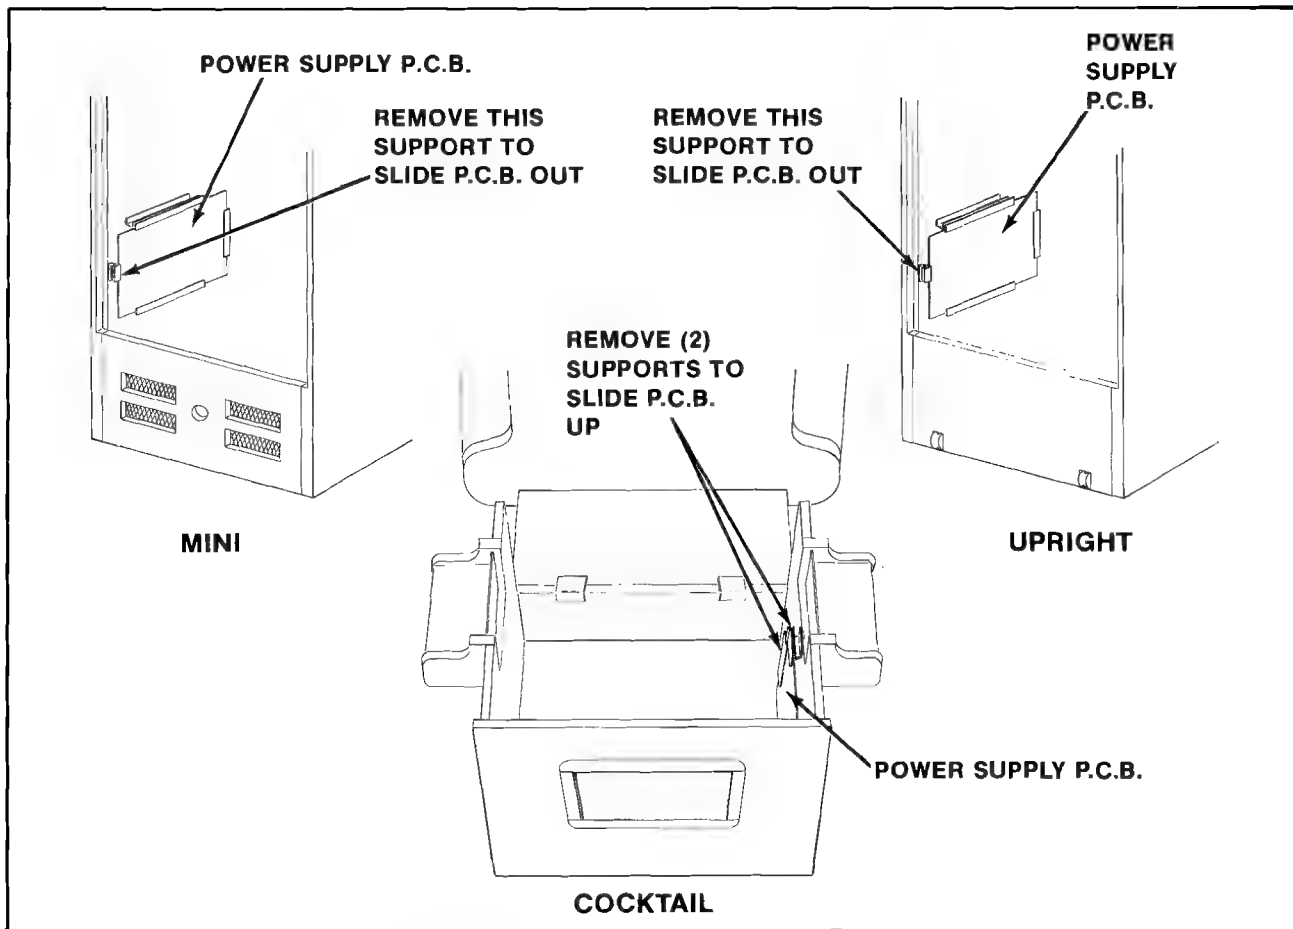

Figure 19 Power supply replacement
1. UPRIGHT MODEL: See Figure 19.
- Disconnect the power supply board from all its cabling, remove the P.C.B. supports indicated in Figure 19, and slide it out the back of the cabinet.
2. MINI MODEL: See Figure 19.
3. COCKTAIL TABLE MODEL: See Figure 19.
- To remove the power supply board. See Figure 19.